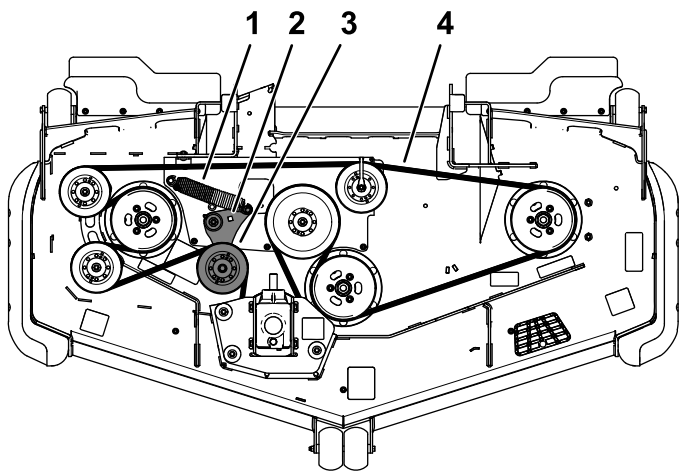
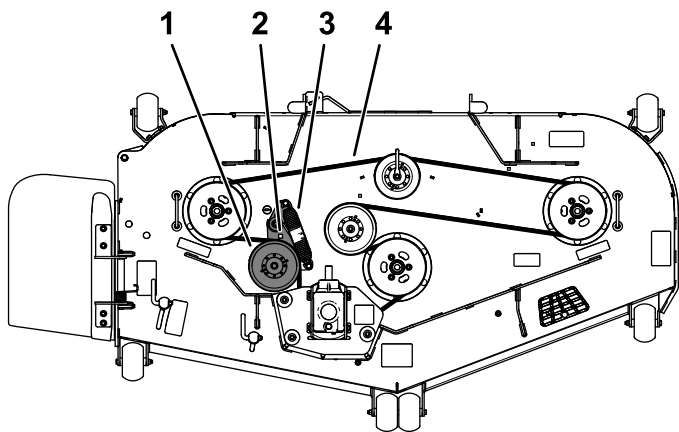

Figure 60
Figure 61
5. Use a ratchet in the square hole in the idler arm to remove tension on the idler spring (Figure 60 or Figure 61).
7. Install the new belt around the mower pulleys (Figure 60 or Figure 61).
8. Ensure that the spring ends are seated in the anchor grooves, and using the ratchet in the square hole, install the belt around the idler pulley (Figure 60 or Figure 61).